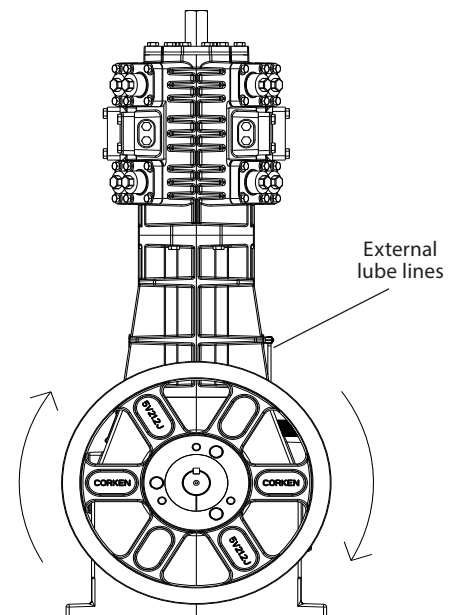

Figure 2.4A: Correct Flywheel Rotation
12. If crankcase with lubricated guide option is installed, the top of the flywheel rotation must rotate towards the lubrication lines on the crosshead guide. As seen in Figure 2.4A **Do not operate the compressor in the opposite direction of rotation.**